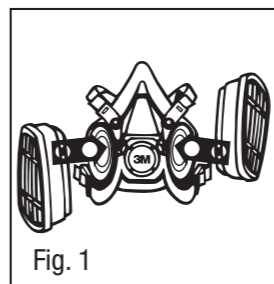

Fig. 1
- Align cartridge notch with facepiece mark, as shown, and push together (Fig. 1).